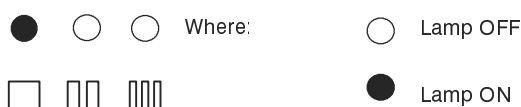

Fig. 11.5
- 16 The lamps E should give the indication as in Fig. 11.5.